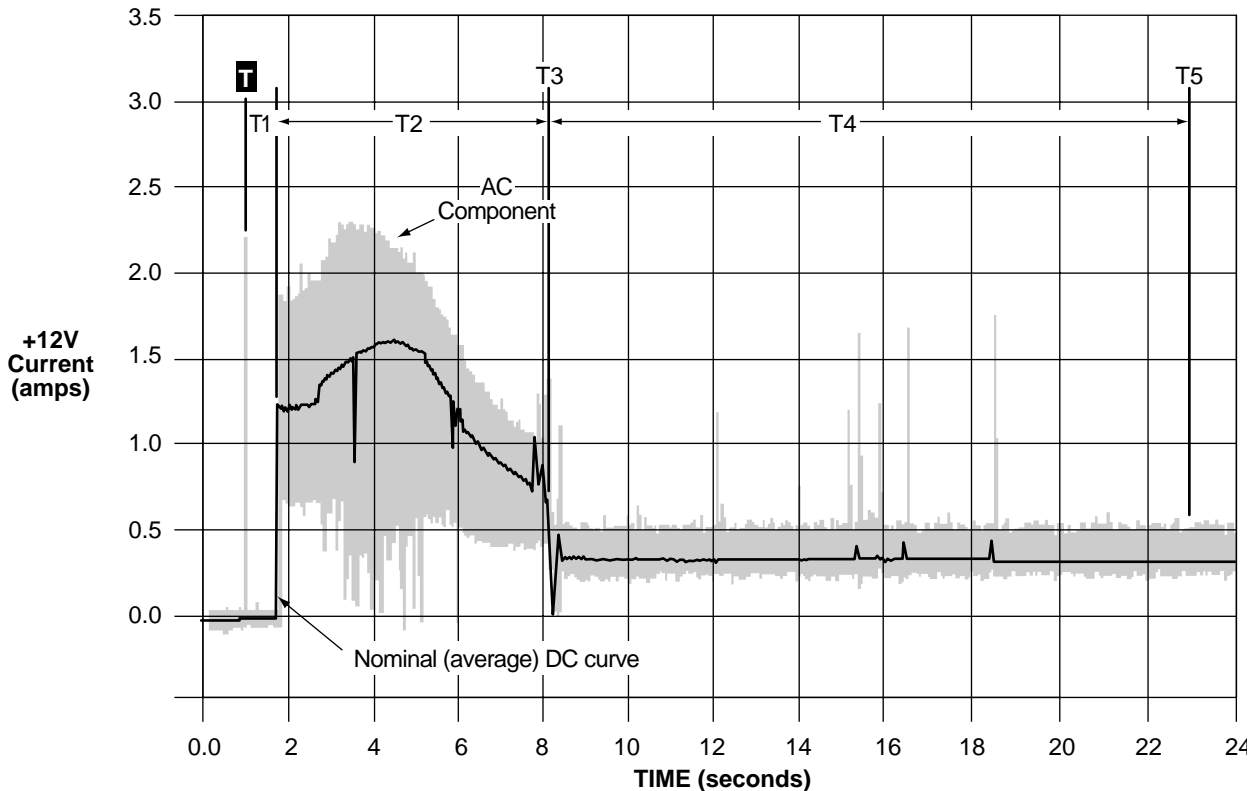

Figure 3a. Typical Barracuda 18LP family drive +12 V current profile
- [3] See +12 V current profile in Figure 3a.
Figures 3a and 3b identify the drive +5 V and +12 V current profile. The current during the various times is as shown: